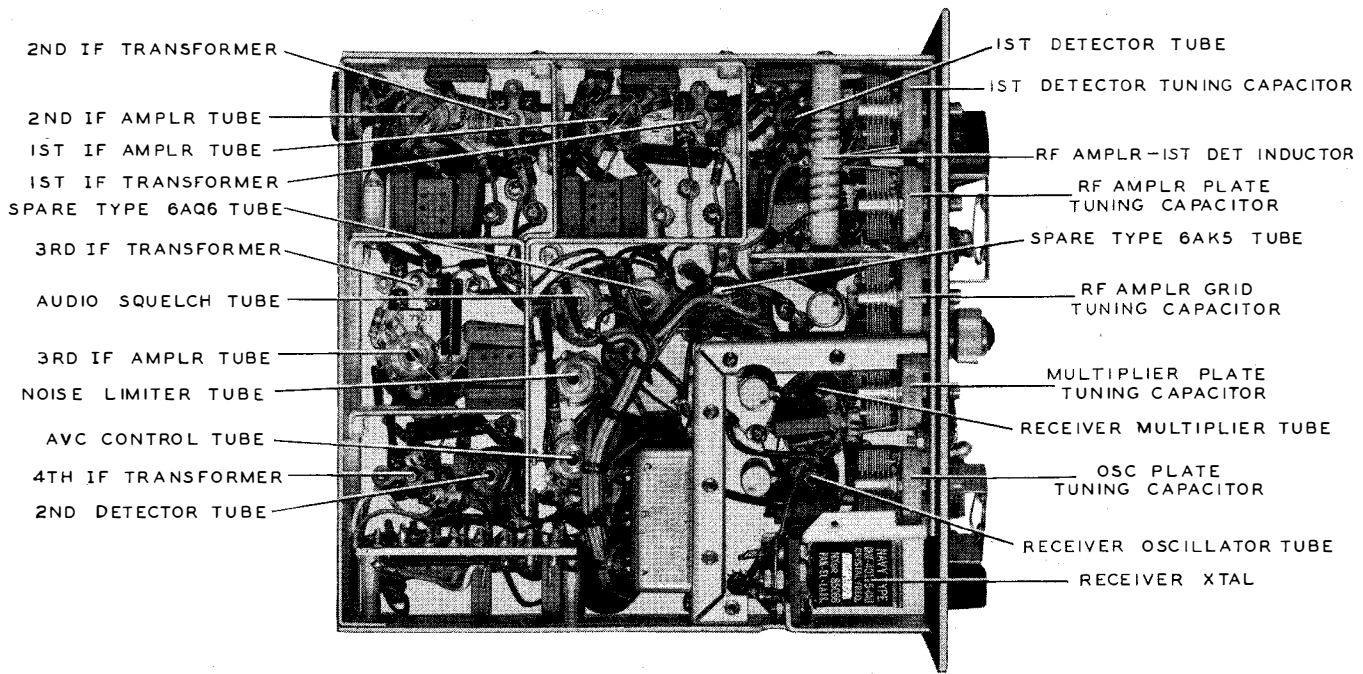

Figure 4-9—Navy Type COL-43065 Radio Transmitter-Receiver, Receiver Section
(3) RF POWER AMPLIFIER STAGE.—A push pull circuit, employing a Type 28D7 double-beam tube, is used in the RF power amplifier stage. Two RF chokes are connected in series across the input circuit to provide a grid return. Resistor R104, in series with the common connection of the chokes, furnishes bias when the tube is being driven. Resistor R105 is a metering resistor placed in the grid return to determine the relative power input to the amplifier. The Tuning Meter indicates the voltage that is developed across this resistor by the grid current flow. Resistors R152 and R166 are connected in the cathode circuit for metering the power amplifier plate and screen current. Cross neutralization is employed. The variable neutralizing capacitors, C178 and C179, are connected between opposite grids and plates of the power amplifier tubes. The plate tank circuit is balanced, using a variable capacitor C114A-B and a center tapped inductor L108. The plate inductor, L108, actually is composed of two sections of two turns each with a space between the sections to allow insertion of the antenna coil. The single turn antenna coil can be moved horizontally within the plate inductor field, to vary the loading effect of the antenna upon the power amplifier stage, by a panel control. A thermocouple element is connected between the antenna coil and ground. The leads that carry the DC current, that is developed by the thermocouple, are connected to the METER SWITCH for checking the antenna current with the Tuning Meter.
c. RECEIVER CIRCUITS. (See figures 4-9 and 4-10.)—The receiver section of this equipment employs the superhetrodyne type of circuit with one